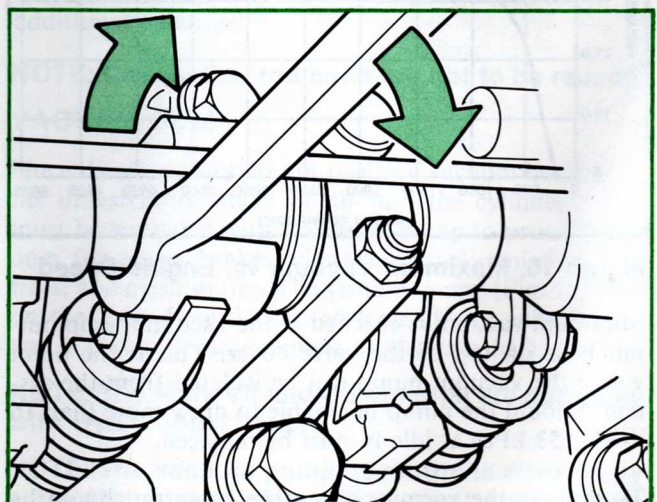

Figure 21. Compressing Valve Spring
4. Remove the spring retainers from the rocker arms of the exhaust valve of cylinder no. 2, and the intake valve of cylinder no. 3. Remove the rocker arms by compressing the valve springs with Special Tool T84P-6513-C (Fig. 21) and pulling the rocker arms out.